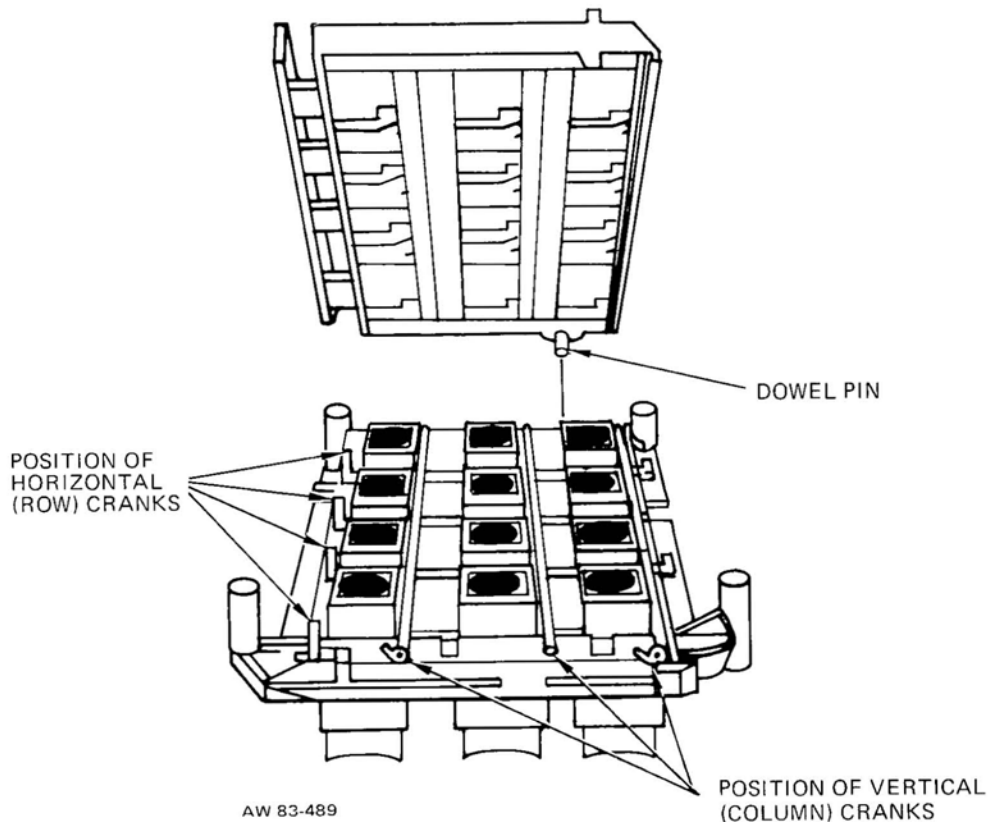

Figure 9: Relative Position of Cranks
- (c) Place the horizontal (row) cranks in position in the cover plate. The arms that contact the actuator slide must be to the assembler's left and must point upward. The round section of each crank must ride in the appropriate slots. (See Figure 9.)
- (d) Place the vertical (column) cranks in position. The arms of the cranks ride on the flanges of the pushbuttons. (See Figure 9.)